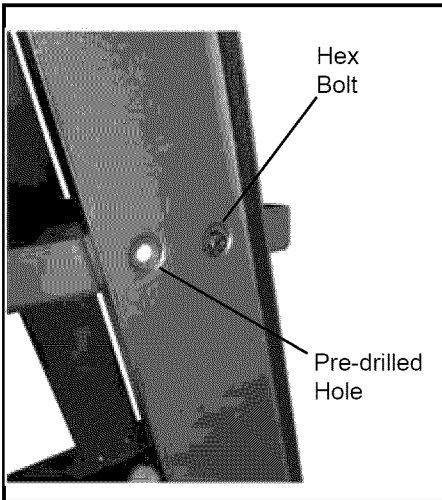

Fig 7.
12.  the middle shelf. Position this shelf so that the lips point up. Align the pre-drilled mounting holes in the lip of the middle shelf with the pre-drilled mounting holes in the Vertical Cylinder Securement Panel and both the left side and right side vertical side panels (Fig 7). Using a hex bolt, slide the bolt through the pre-drilled holes in the lip of the Middle shelf and into the matching pre-drilled holes in the Vertical Cylinder Securement Panel, the Left Side Vertical Panel and the Right Side Vertical panel. Secure with a Hex Nut. Repeat for all the mounting holes.